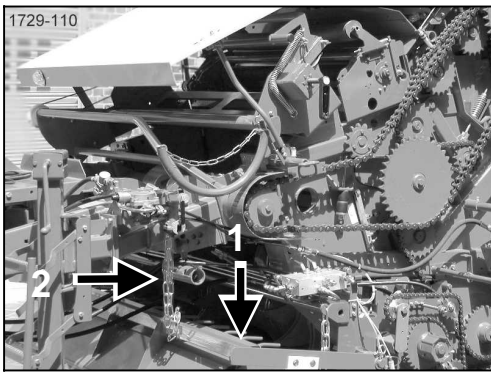

Figure 77
- (Figure 77) The vertical position of the wind guard [1] is adjusted to the size of the swath by means of the chain [2].